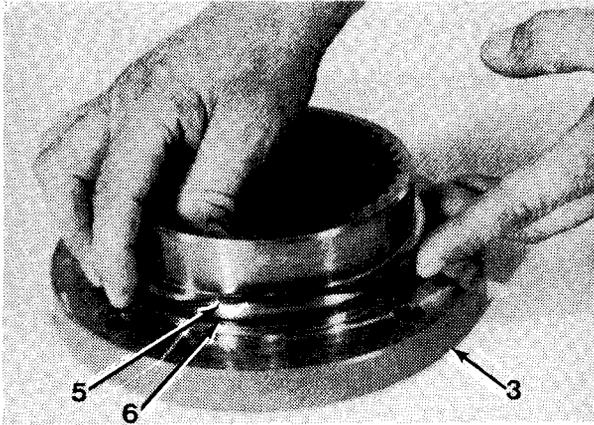

Figure 16-7
1. Install back-up seal ring (6) and O-ring (5) on motor support (3, Figure 16-7). Install with motor mounting surface down.